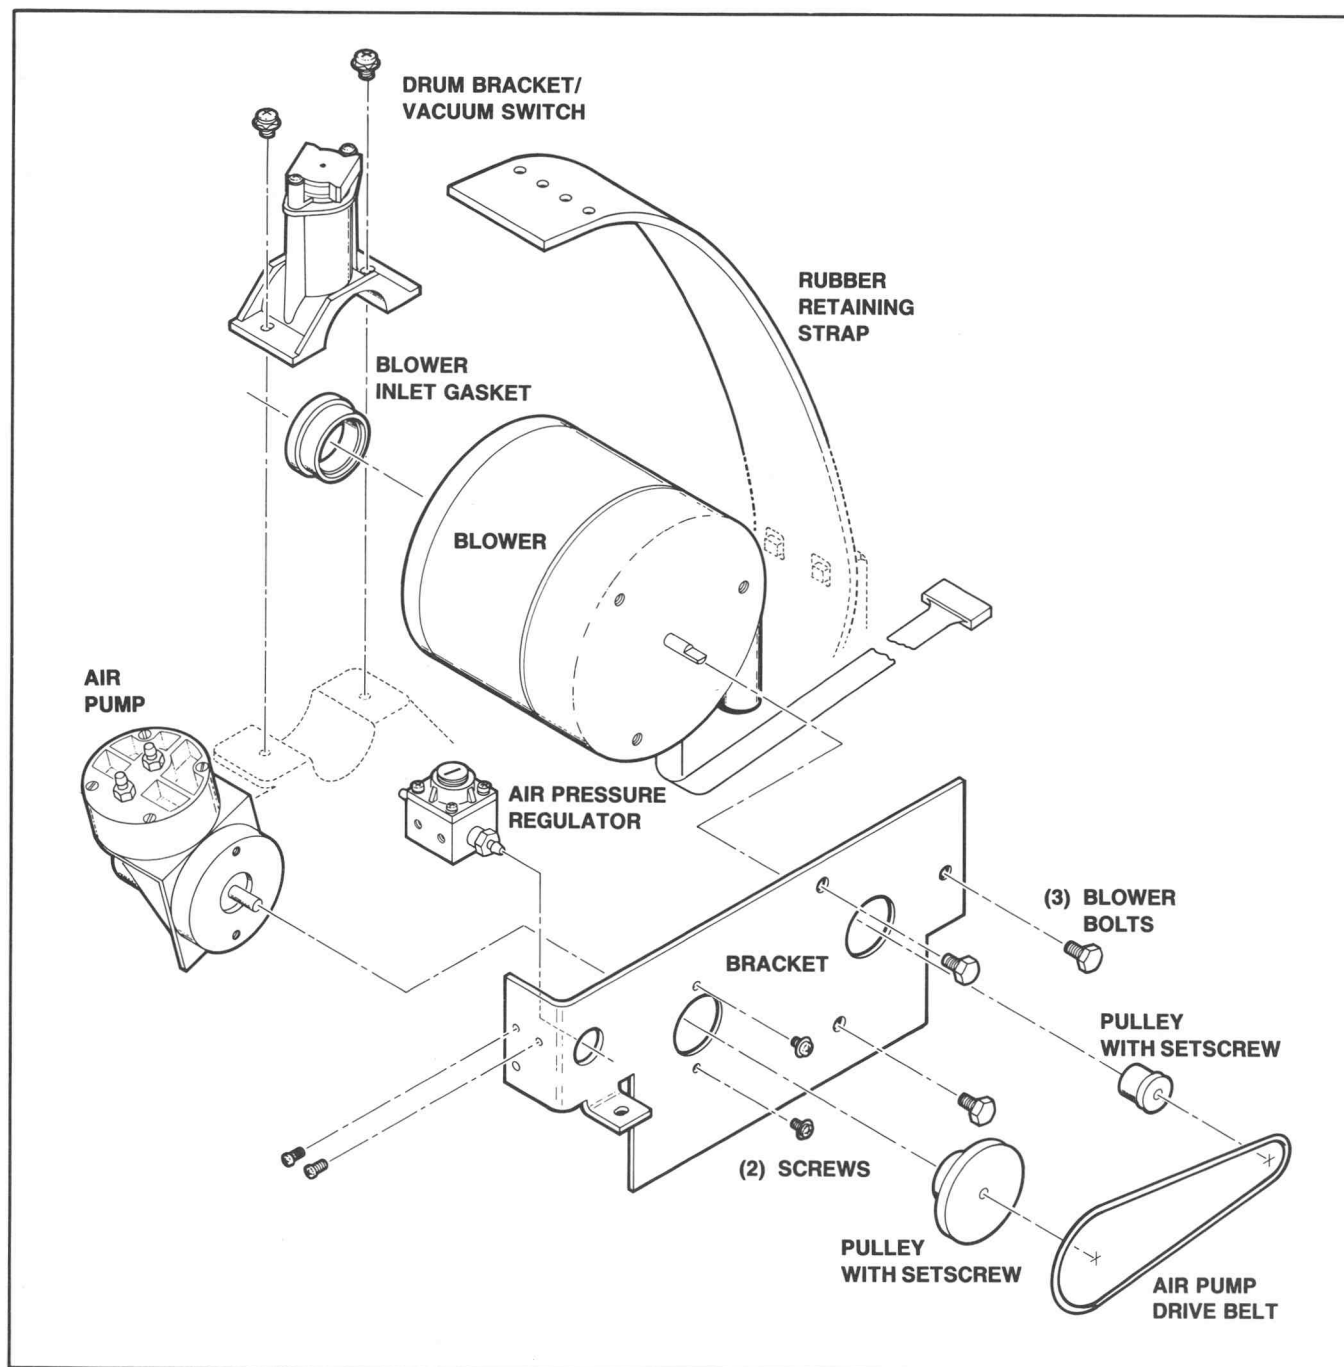

Figure 6-16. Blower Assembly.
Refer to Figure 6-16 for removal/replacement information.
4. Remove the vacuum switch/drum bracket. Refer to Figure 6-16.
Regulator. Refer to Figure 6-16 to see how the regulator attaches to the blower bracket.